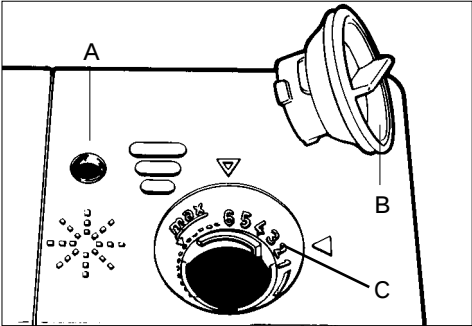

fig. 5
- Open the rinsing agent reservoir (see fig. 5) on the inside of the door, next to the detergent reservoir. The means of operation will depend on the type of dishwasher: the containers all work on the basis of the same principle.
- Every now and again check the level of the rinse-aid. The level gauge (A) is located to the upper left of the lid. Reservoir empty: ○ . Reservoir full: ● .
- The correct quantity of rinse-aid per washing cycle is adjustable. Turn the knob (B) in the container to the desired setting (C). The amount of rinse-aid is in proportion to the numbers on the knob.